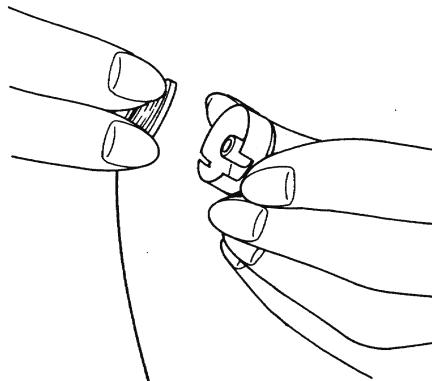
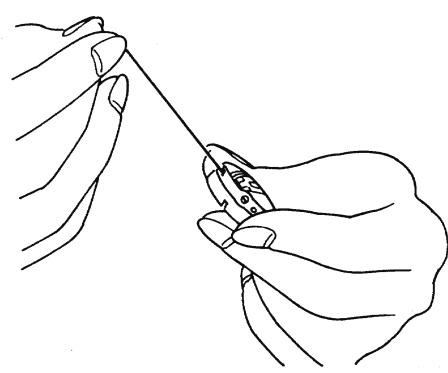
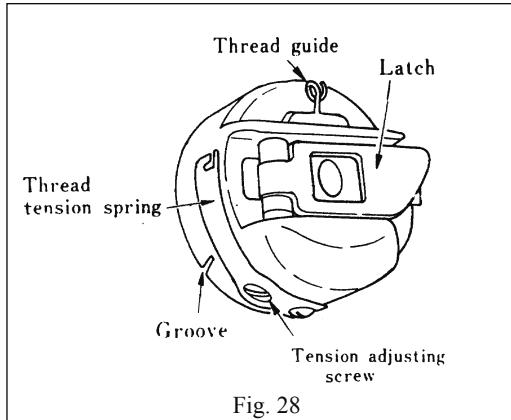
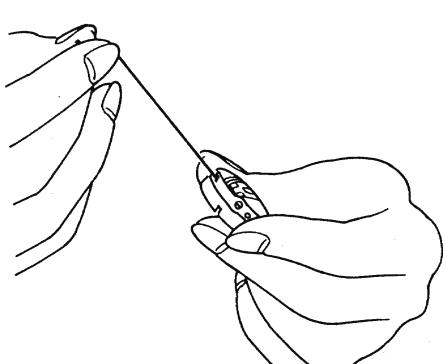

Fig. 25 ① Inserting the bobbin into the bobbin case
Fig. 26 ②③ Passing the tension spring from the groove
Fig. 28
Fig. 27 Passing the thread guide
① Hold the wound bobbin between the thumb and forefinger of the right hand and with the thread hanging down, insert it into the bobbin case which is held by the left hand. (Fig. 25). Next, pass the thread which is sticking out to the groove of the bobbin case ② Fig. 26, and as you pull it, pass under the tension spring of the bobbin case ③ Fig. 27, and finally pass it through the thread guide ④, Fig. 28.
The upper thread tension and bobbin thread tension of this machine can be set independently of each other. The upper thread tension can be adjusted by the tension nut (Fig. 41) and the bobbin thread tension can be adjusted by the bobbin case thread tension screw (Fig. 28). Normally, the thread tension of the bobbin thread inside the bobbin case should be set and then the upper thread tension is fixed by the thread tension nut to obtain ideal tension. In an embroidering work, the thread tension should be adjusted so that the upper thread should come out on the back of the cloth, a stitching process quite different than conventional stitching.